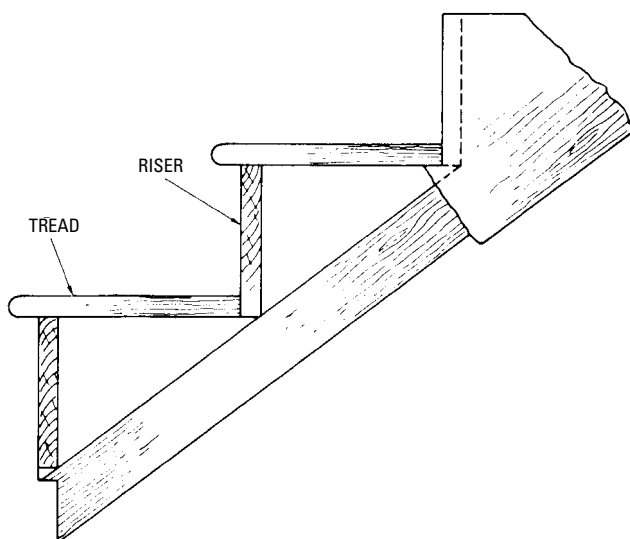

Figure 1-17 Tread and riser.
- Riser—The board forming the vertical portion of the front of the step (Figure 1-17).
- Tread—The horizontal face of a step, as shown in Figure 1-17.